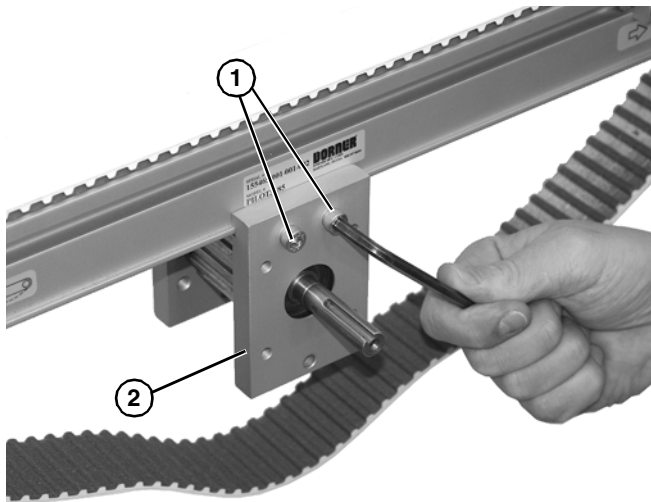

**Figure 68**
12. Install cover (**Figure 68, item 1**) and two screws (**Figure 68, item 2**). Tighten screws enough to secure cover.